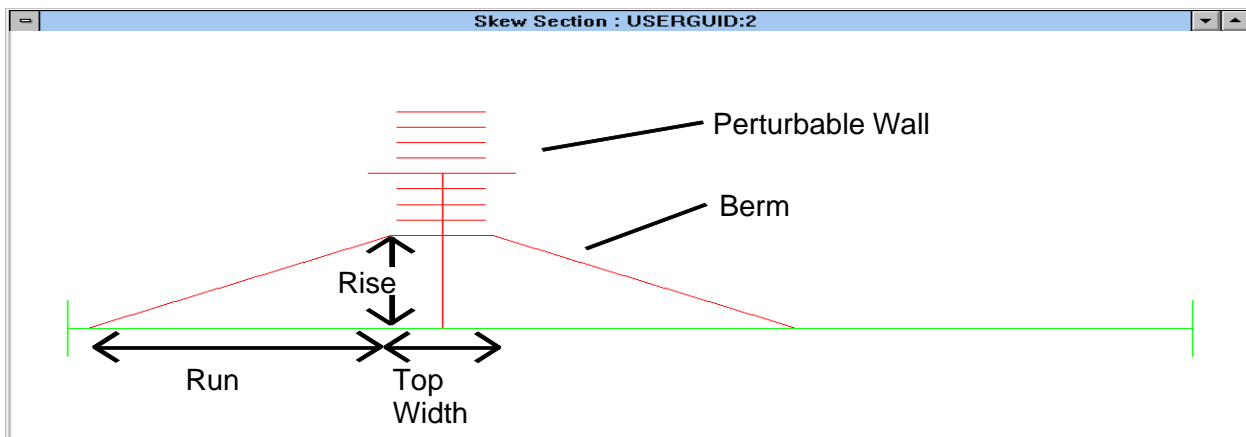

Figure 39. TNM wall barrier on top of a berm barrier.
4. For berm barriers, enter the Side Slope (Run:Rise) in the dialog header. The skew section of Figure 39 shows these two parameters. (These two parameters flow from the default barrier's header to the header of subsequent barriers.)
Note: TNM will produce input check errors if the above conditions were not followed. Figure 39 shows a wall barrier directly on top of a berm barrier.